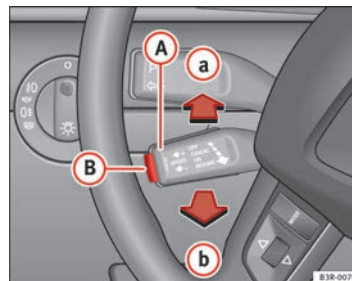

Fig. 155 Controls for the cruise control system
- Press the lever **(A)**  $\Rightarrow$  Fig. 155 to position **(a)** (click stop not engaged).